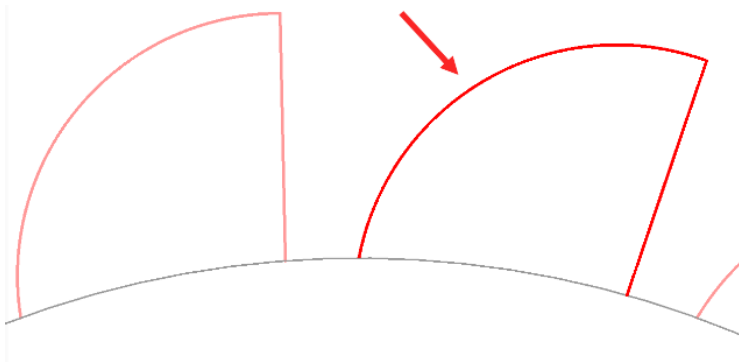

Figure 6.24: The reconfigured saw tooth
5. Using the **Line** (*LINE*) command and the **Erase** (*ERASE*) command, edit the original saw tooth to a similar configuration, as shown in *Figure 6.24*.